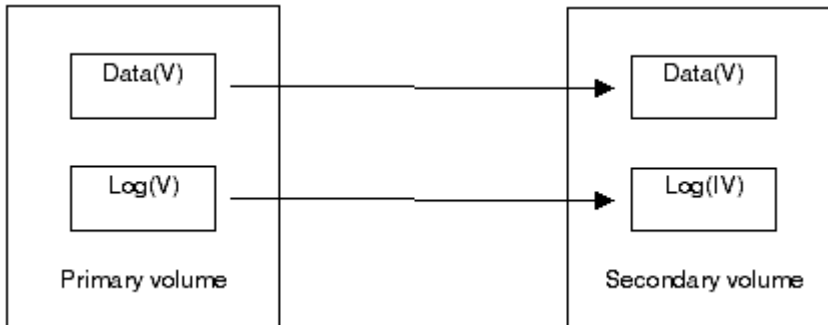

Figure 335 Relationship between log file and data file in PAIR status
When a take-over by the S-VOL occurs as shown in Figure 335 (two errors have already occurred), Data(V) remains in the rollback process at the secondary host, and full recovery cannot be performed. To avoid this situation, define the fence level of the Redo log file as **Data**, so the P-VOL returns an error if a data disagreement concerning a write request issued from the host is expected to occur. The **Data** fence-level setting maintains full consistency between the Redo log file and data file because no data is written to the data file due to the write error at the log file. However, when the fence level is defined as **Data**, a write I/O causes an error even when processing is suspended due to an error at the S-VOL. In this case, a take-over by the S-VOL occurs, and the significance of the duplex system is lost. Therefore, if you define the fence level as **Data**, applications must be able to handle write I/O errors. Systems